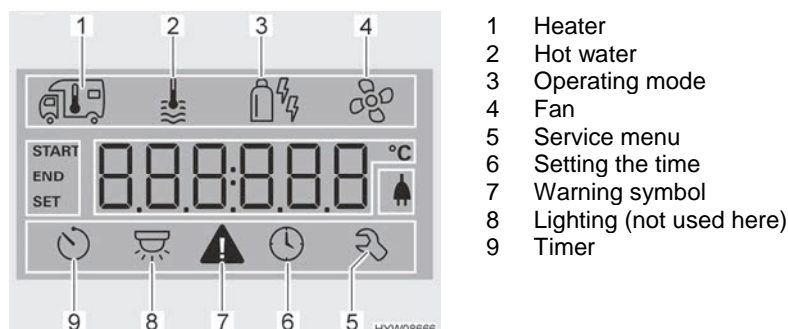

Fig. 95 Display (operating unit)
- Turn rotary push button (Fig. 94,6) until the heater menu symbol (Fig. 95,1) flashes.
- Turn rotary push button (Fig. 94,6) until the hot water menu symbol (Fig. 95,2) flashes.
- Turn rotary push button (Fig. 94,6) until the menu symbol operating mode (Fig. 95,3) flashes.
- Turn rotary push button (Fig. 94,6) until the fan menu symbol (Fig. 95,4) flashes.
- Turn rotary push button (Fig. 94,6) until the timer menu symbol (Fig. 95,9) flashes.
- Press rotary push button. The timer is activated. The timer symbol (Fig. 95,9) flashes when the timer is programmed and active.
The warning symbol (Fig. 95,7) flashes in the event of a warning. The heater continues to operate. In the event of only a temporary fault, the warning symbol goes out automatically.